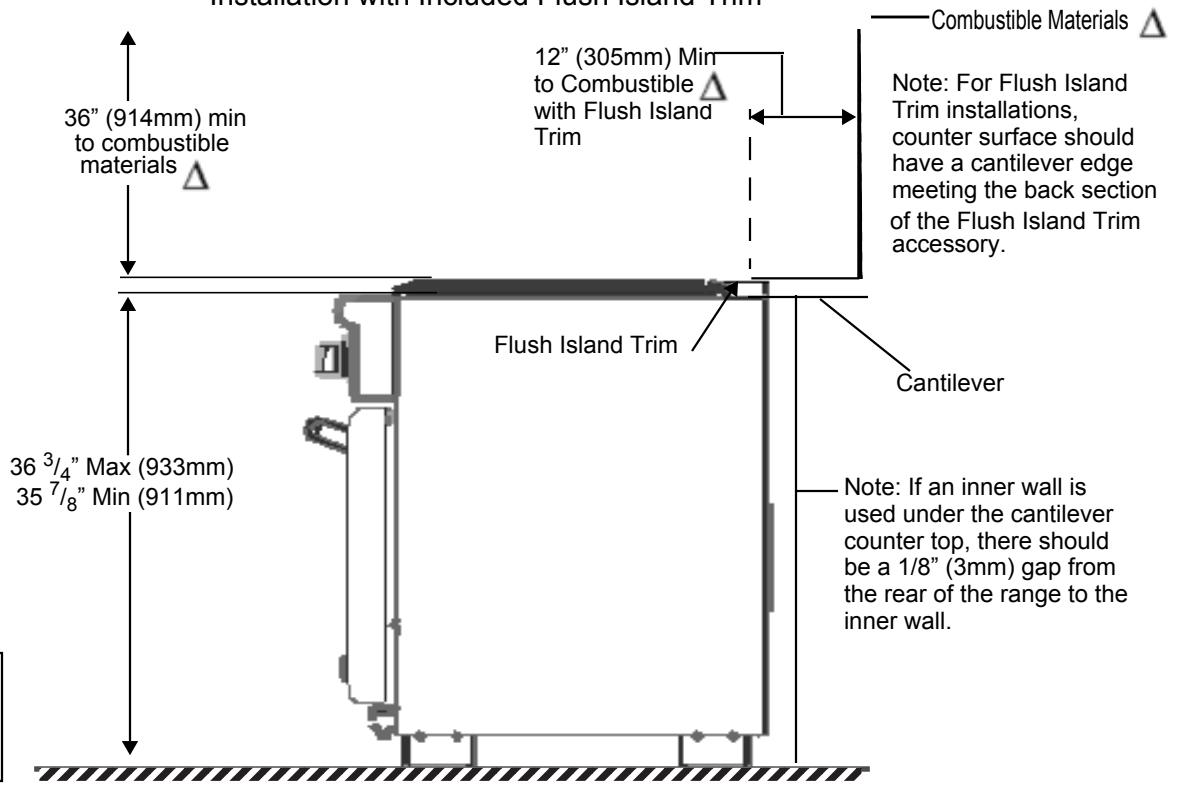

FIGURE 2: SIDE VIEW OF CLEARANCES
- When there is less than a 12" (305mm) horizontal clearance between combustible material Δ and the back edge of the range above the cooking surface, a THERMADOR® Low Back or High Shelf must be installed (see Figure 2, page 6). When clearance to combustible material Δ is over 12" (305mm), the supplied THERMADOR® Flush Island Trim may be used. Figure 2 indicates the space required for each type of backguard.